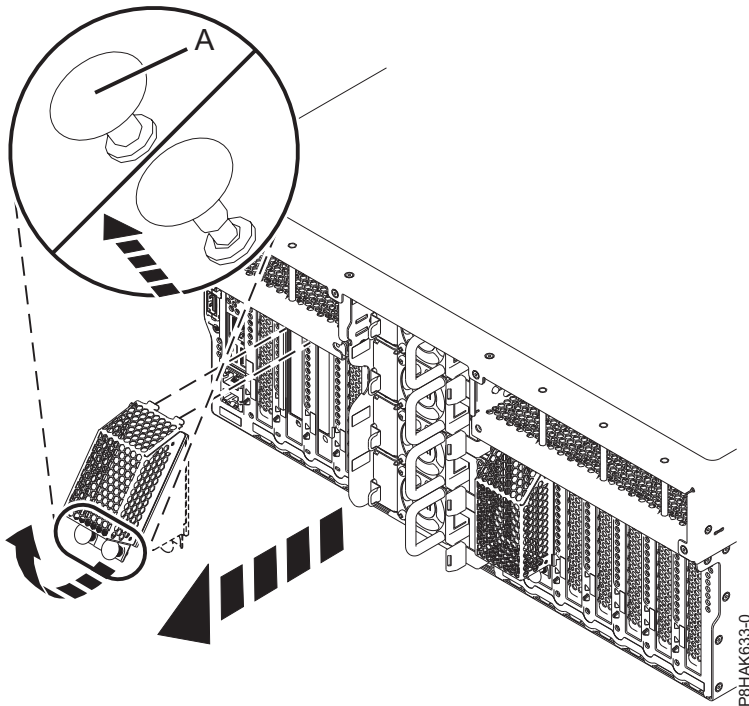

Figure 33. Removing the protective shield from the GPU adapter
- a. Pull out locking button (A) in to the open position, as shown in Figure 33 on page 36.
- c. Holding the protective shield, rotate the shield in the direction that is shown in Figure 33 on page 36, and then pull away the shield from the rear bulkhead.